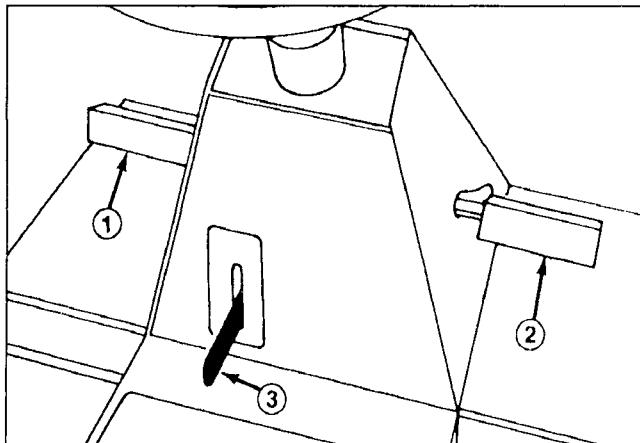

Figure 8
**Clutch Pedal** (Fig. 8) — Used in conjunction with gear shift. Depress clutch pedal fully when shifting gears and whenever brake is used.
**Brake Pedal** (Fig. 8) — Must be depressed to slow down or stop the rider. When pedal is depressed, a caliper engages the brake disc at side of transmission. Remember to depress clutch pedal when using brake.
**Parking Brake** (Fig. 8) — Parking brake must be used in conjunction with brake pedal. When pedal is depressed, end of parking brake lever holds brake pedal in a depressed position and a caliper engages the brake disc at side of transmission.